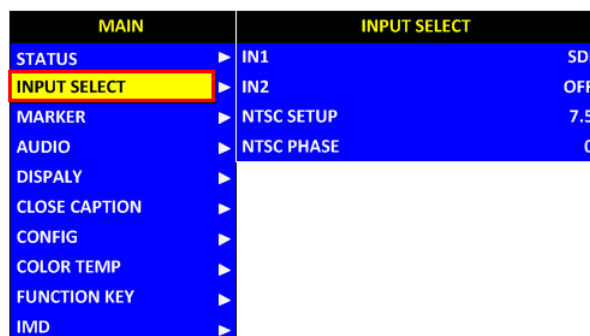

Figure 5.1-3 A Main Menu Item Is Selected
- when in the main menu, it shows that this menu item is selected, as shown in Figure 5.1-3: